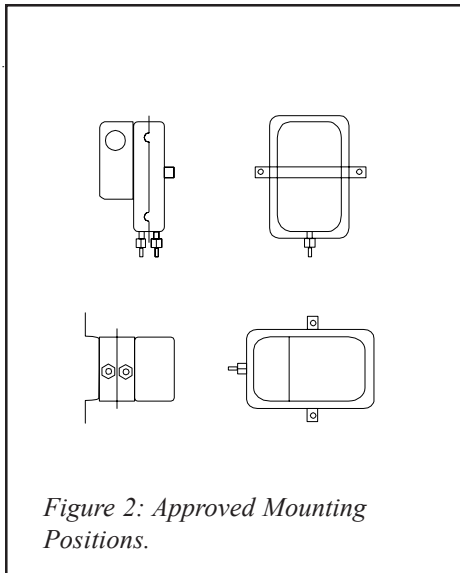

Figure 2: Approved Mounting Positions.
3. Mount the air flow switch in a convenient location, free from vibration. The switch must be mounted vertically, with the sample line connections facing either to the side or down. See Figure 2.